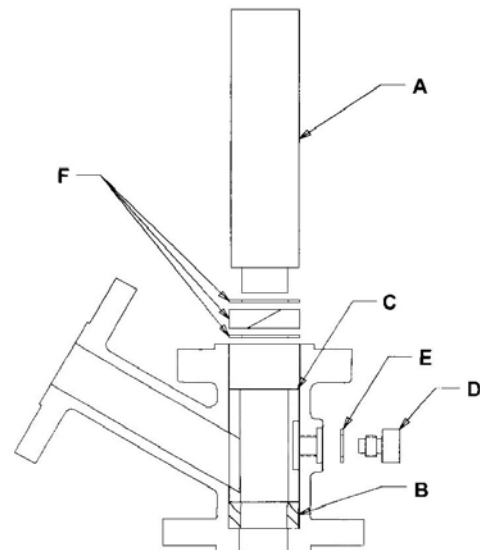

Figure 3 – Installation of braided TFE gland ring.
1. Using a Strahman ring seater "A" (See Fig. 3) or the valve cage "C", install inlet ring "B". The ring should sit evenly on shoulder.